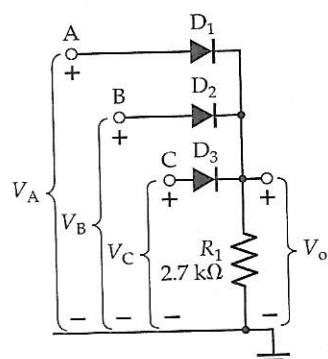

Figure 3-61 Circuit of a three-input OR gate. A high output occurs when high inputs are present at input A, OR at input B, OR at input C.
The circuit diagram of an OR gate with three input terminals is shown in Fig. 3-61. Like the AND gate, the OR gate could have two or more inputs. It is obvious that the output voltage (V_o) of the OR gate in Fig. 3-61 is low when all three inputs are low. Now suppose that a +5 V input is applied to terminal A, while terminals B and C remain grounded. Diode D_1 becomes forward-biased, and its cathode voltage is $V_o = (5\text{ V} - V_F)$. The gate output voltage is $+V_o$ at the cathodes and ground at the
- 3-12.2 Calculate the maximum and minimum levels of diode forward current for the OR gate in Fig. 3-61 when $V_i = 4.5$ V and $R_1 = 2.7$ k Ω .